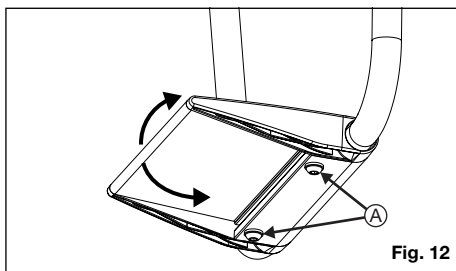

Fig. 12
1. Loosen the two screws (Fig. 12:A) on the bottom of the footrest using a 4 mm Allen wrench.